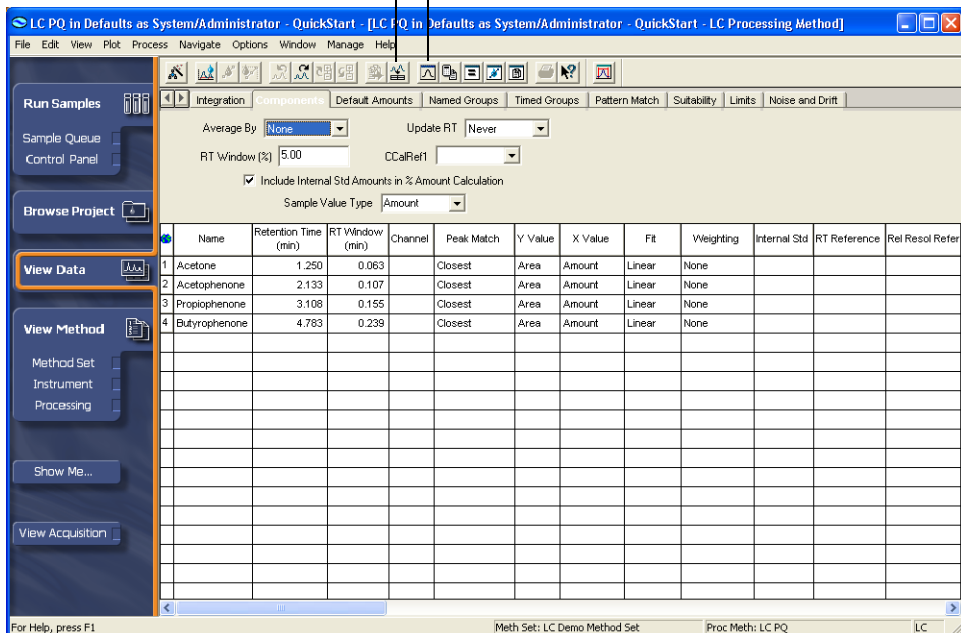

Figure 6-6 Processing Method Window, Components Tab
- 5. Click the **Components** tab. The Components tab appears (Figure 6-6).
- Click  (Fill from Results) to fill default calibration parameters in the table using peaks from the current integration. Change the peak names to the following (Figure 6-6):